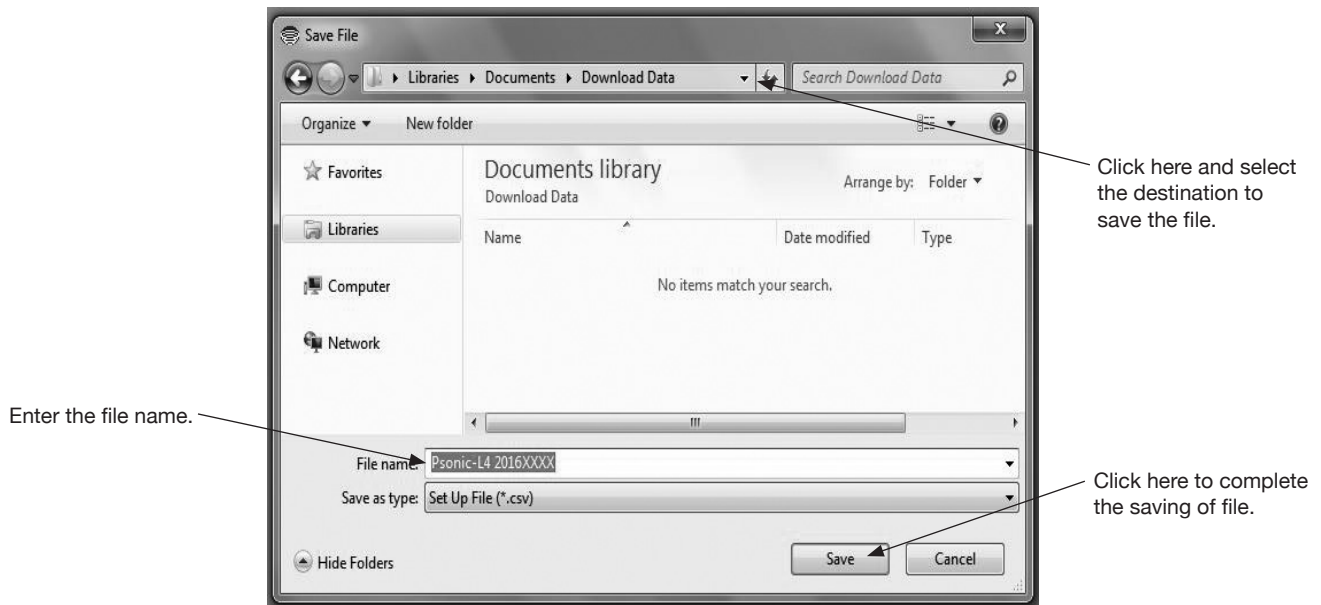

Fig. 3-86
- (3) After the upload is completed, the dialog box shown in Fig. 3-86 will be displayed. Enter the name of file to be saved and click "Save (S)" button.